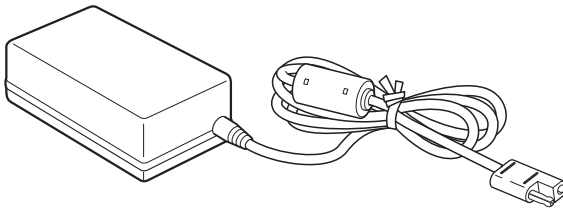

Figure 1-10. Power Supply Unit
The **power supply unit** (p/n 22-034101-01) charges the internal batteries when connected to a grounded outlet (Figure 1-10). This unit converts the alternating current (AC) normally supplied from an electrical outlet to a direct current (DC) used to charge the batteries and/or power the receiver.